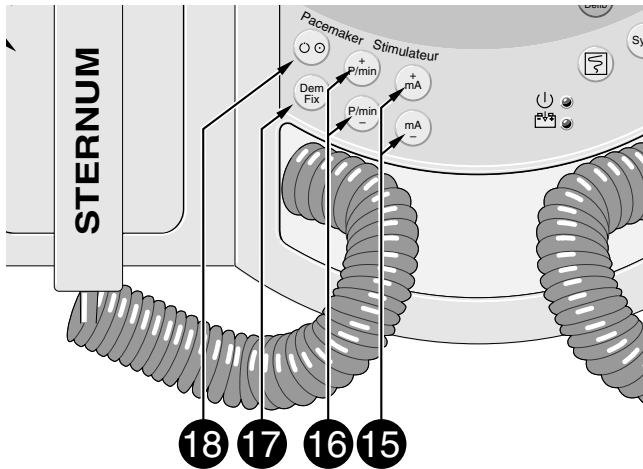

Figure 10-5. Pacemaker operating controls
- * Press the  button to switch on the pacemaker (Figure 10-5). The pacemaker defaults to the demand mode and to a pacer rate of 60 BPM (selectable).